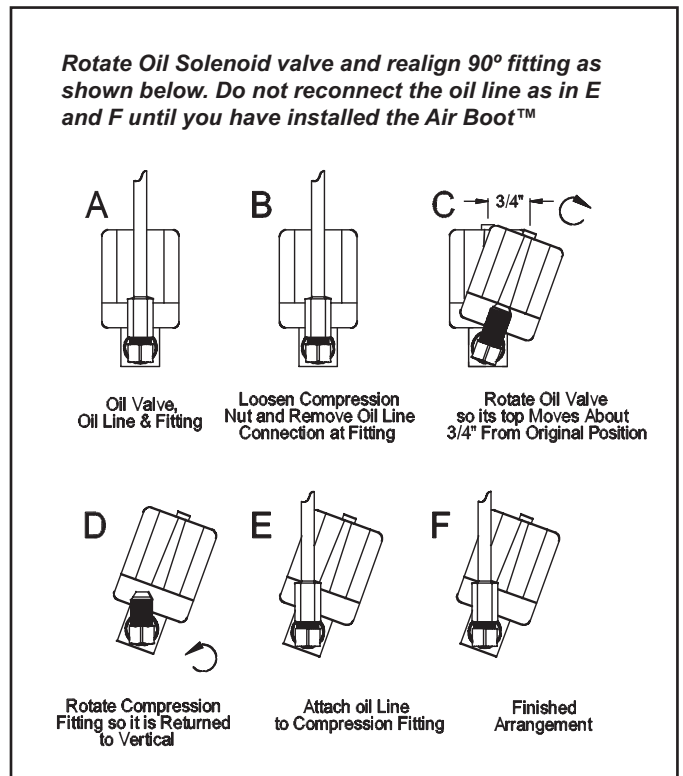

Figure 1
1. Rotate the burner oil solenoid valve as shown in Figure 1, steps A-D. Do not reconnect the oil line (per E-F). The solenoid valve must be aligned as shown to prevent interference with the Air Boot™.
8. Reconnect the burner oil line to the ell fitting on the oil pump per Figure 1, drawings E and F.